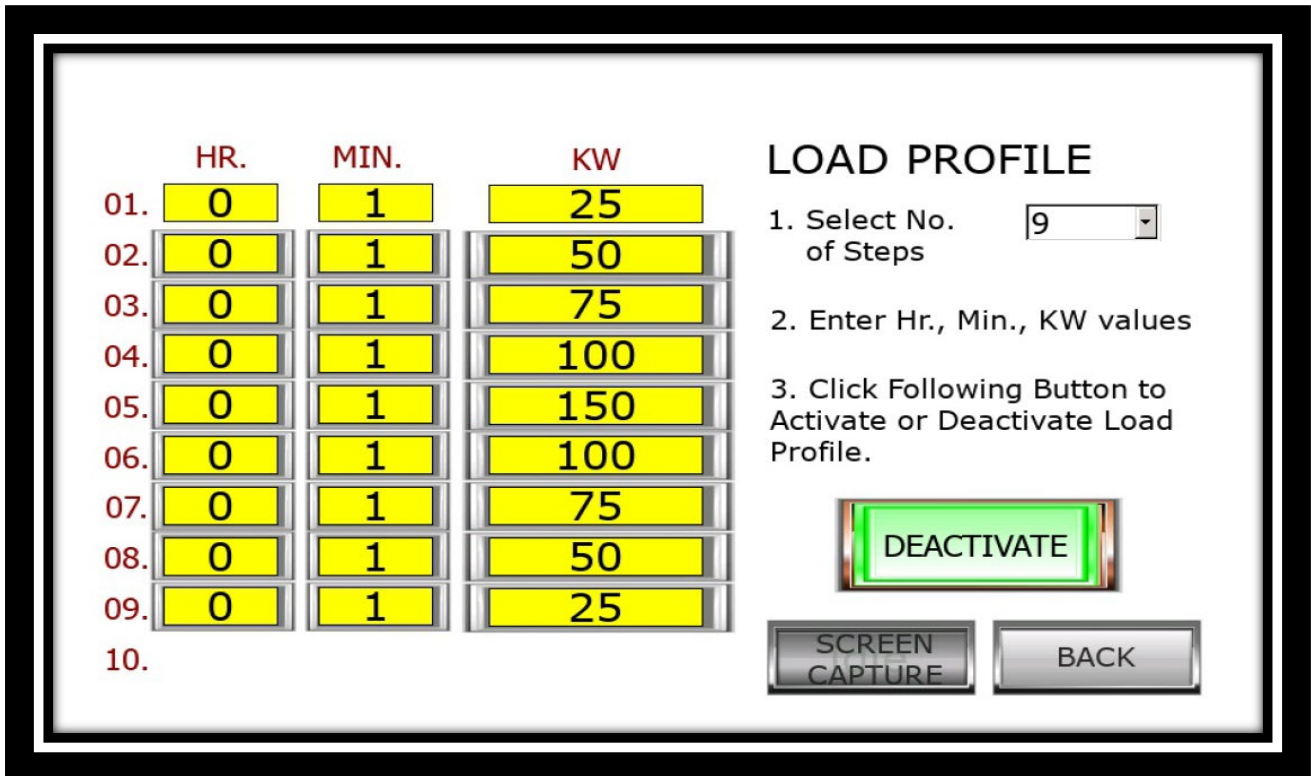

Figure-13 Load profile
- b. ACTIVATE button will now change to DEACTIVATE, meaning load profile run of load bank can be deactivated and hence applied load can be disconnected anytime by click on this button (see figure-13).